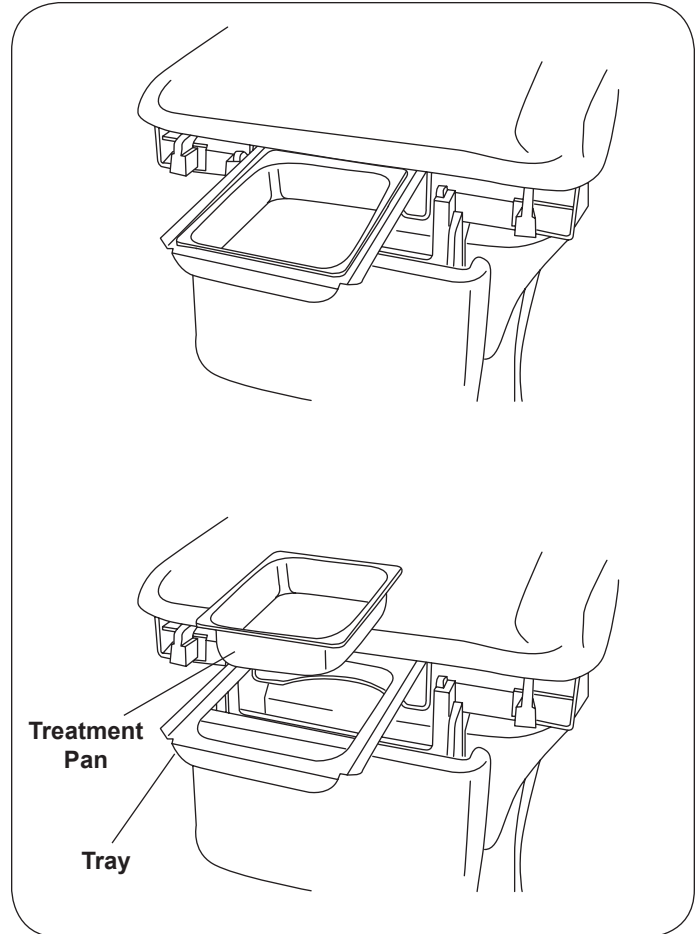

Figure 21. Treatment Pan
Treatment Pan (Figure 21)
1. To expose the treatment pan for use, grasp the tray handle and pull until tray is fully extended (Figure 21).